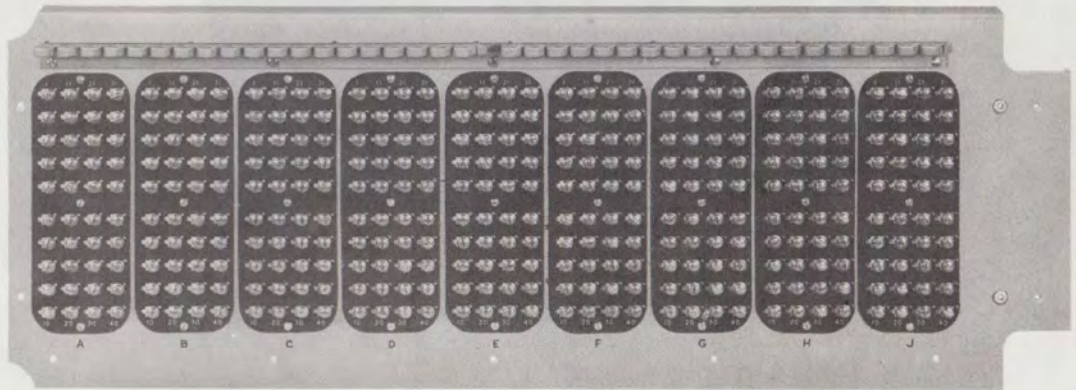

Fig. 42—Terminal Plate Assembly per ED-69366-50, Group 3
9.01 The terminal plate assembly per ED-69366-50, Group 3 (Fig. 42) is used primarily as a distribution terminal for the 26A apparatus mounting.